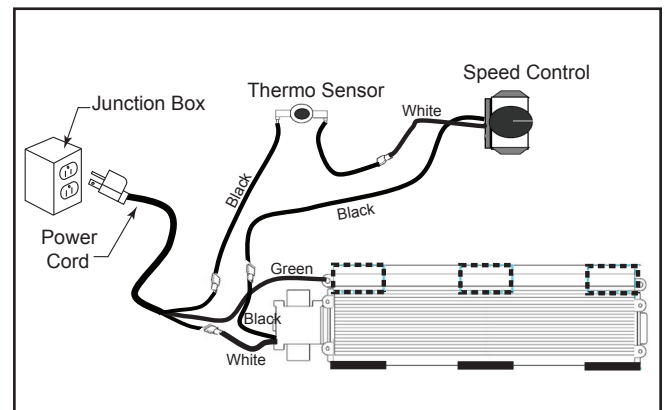

Figure 14
2. Plug in power cord to junction box. Figure 14
4. Attach wires as per wiring diagram. See Figure 14.